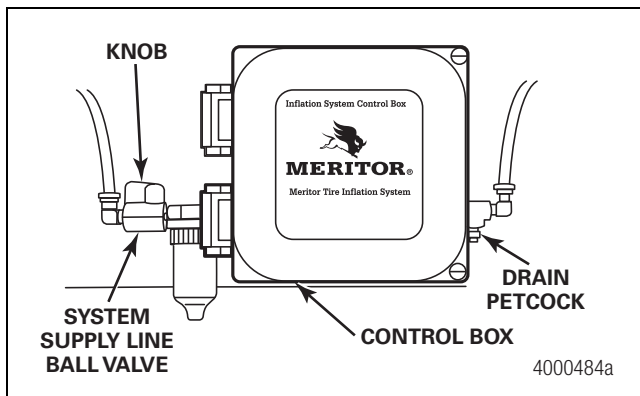

Figure 4.1
3. Check that the system ball valve is open. When the supply line ball valve is open, the knob aligns with the valve body. Ensure that the drain petcock is closed. Figure 4.1.